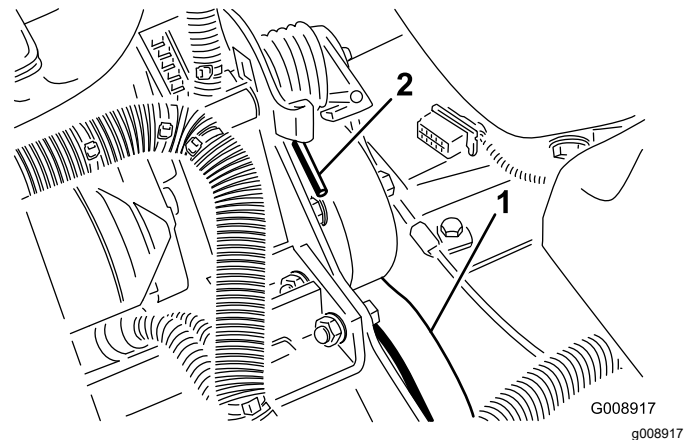

Figure 78
3. Push down and forward on the spring end (Figure 78) to unhook it from the bracket and release tension on the spring.